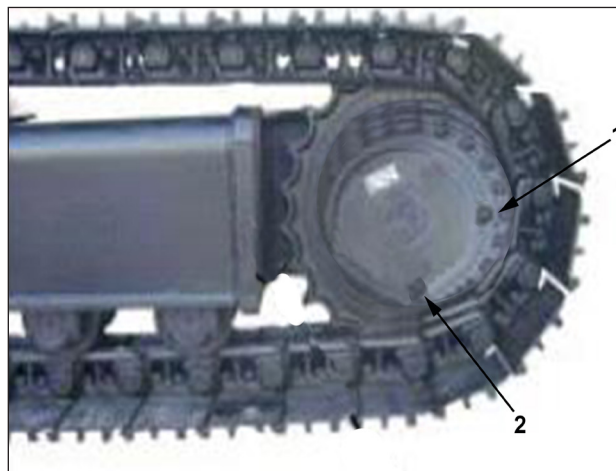

Figure 6.7 - Draining Gearbox Oil
1. Move the machine to a level surface and bring the oil fill (1) and oil drain holes (2) to the position shown in Figure 6.7.